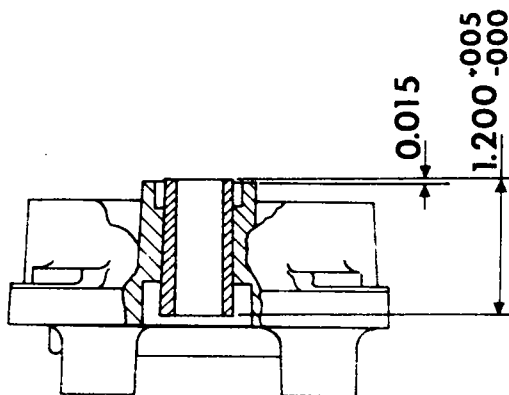

Figure 4.
4. Use a suitable cutting tool and turn so that overall length of bushing is $1.200 + .005 - .000$ inch as shown in figure 4. (A Carbaloy tipped tool is recommended.)
of reworked bushing. See figure 4.